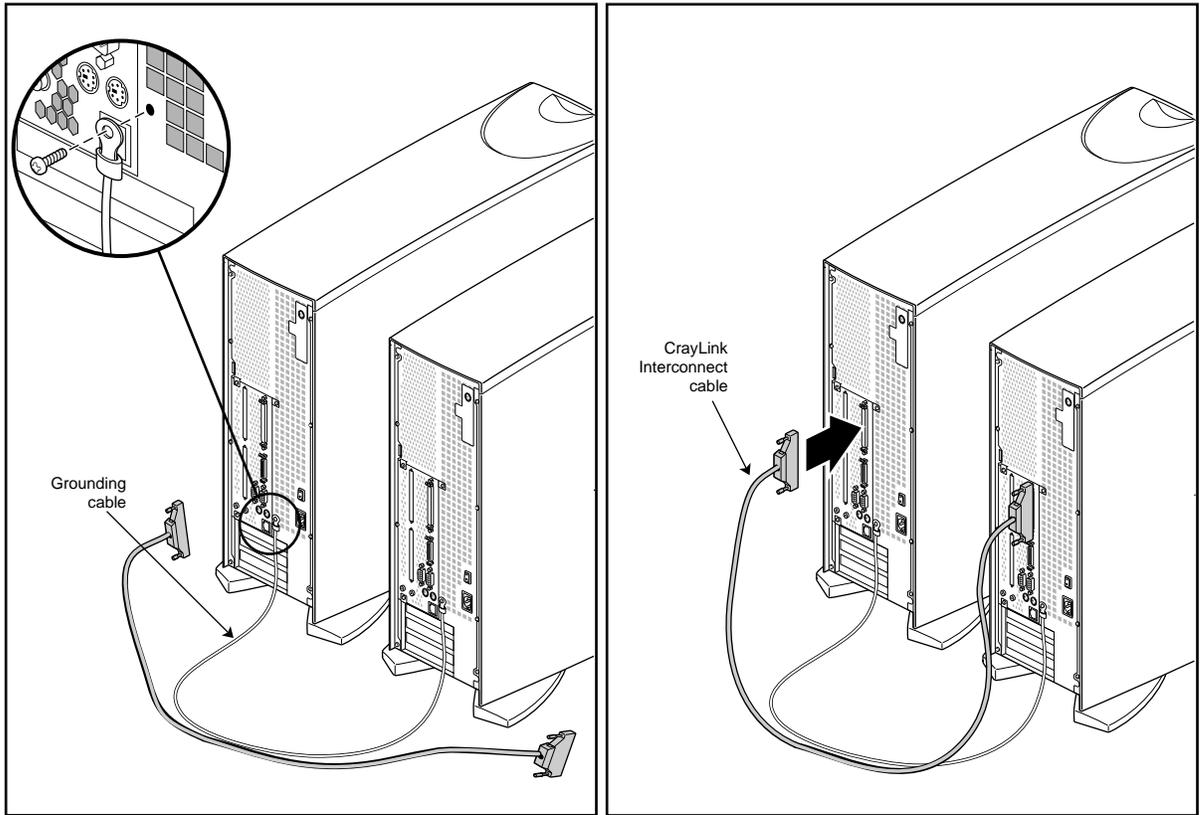

Figure 2-26 Attaching the Grounding and CrayLink Cables
1. Connect the grounding cable and CrayLink cable between the two chassis, as shown in Figure 2-26.